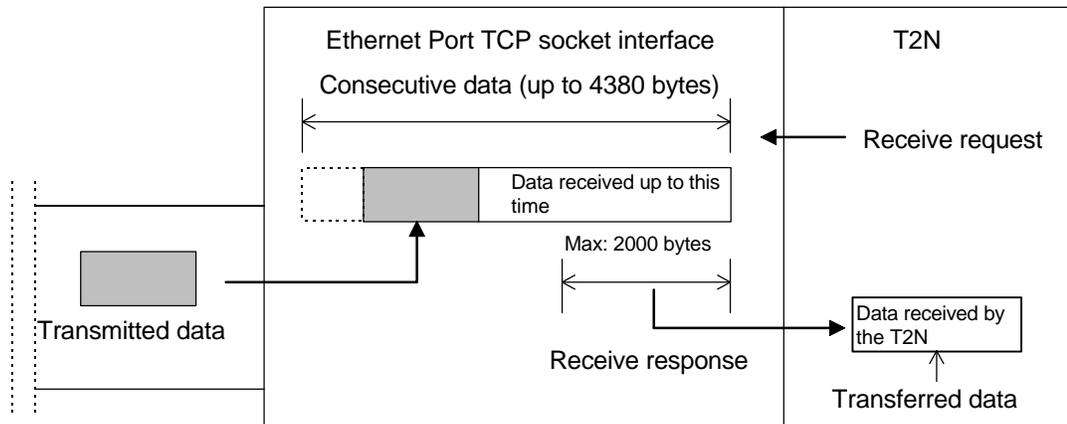

Figure 6.6 Handling of Transmitted Data in the TCP Socket Interface
- a. When using the TCP socket interface for data transmission, the data transmitted in a single operation is handled by the receive side Ethernet Port as one section of a continuous data stream that comes from the sender. (See figure 6.6.)